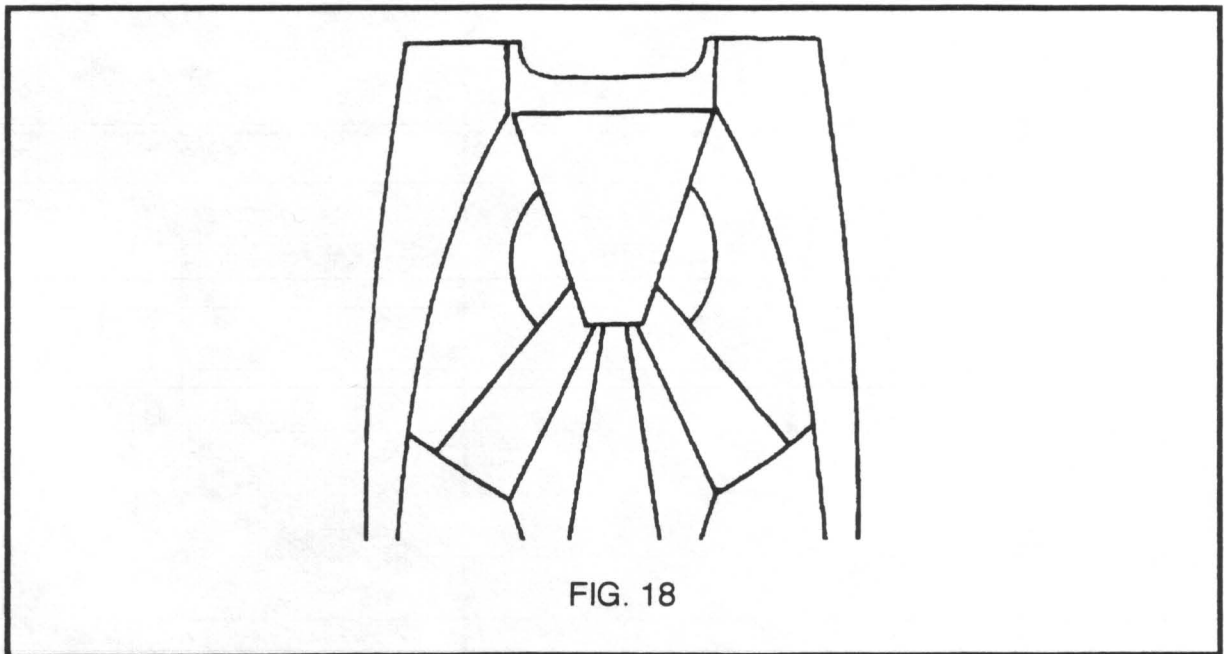

FIG. 16
17) Fold the pilot chute into thirds (FIG. 15), and then roll it tightly into a cylindrical shape the tighter, the better, (FIG. 16).